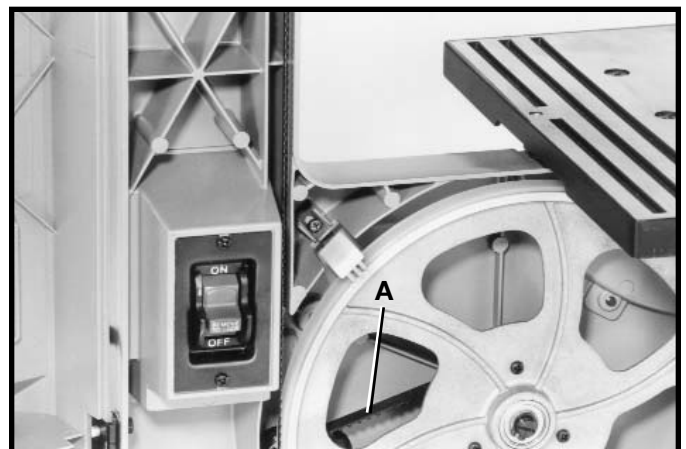
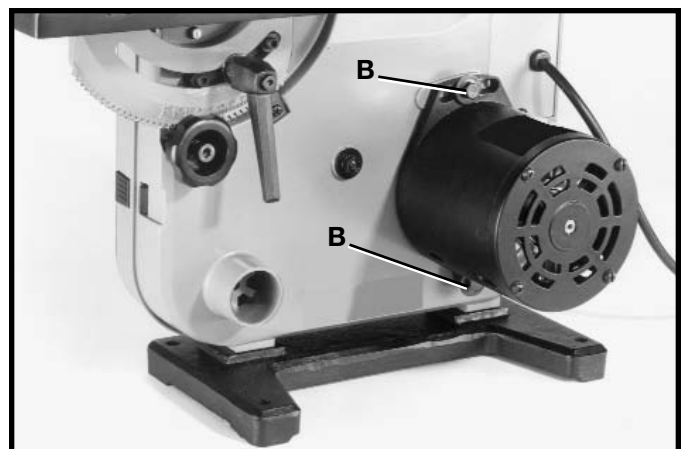

Fig. 29
Fig. 30
The belt (A) Fig. 29, drives the blade wheel pulley from the motor pulley. The belt (A) is properly tensioned when there is approximately 1/4" deflection in the center span of the belt (A) using light finger pressure. If belt tension needs to be adjusted, loosen two screws (B) Fig. 30, and rotate motor accordingly. Tighten screws (B) when adjustment is completed.